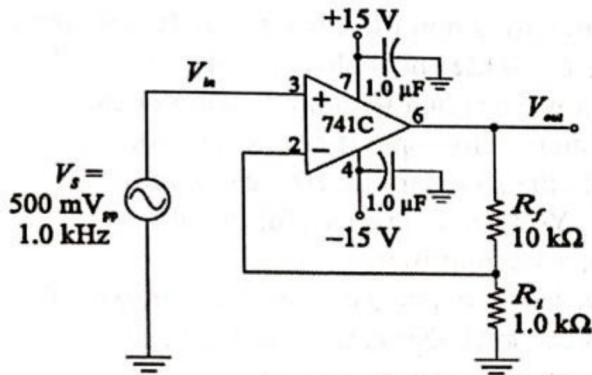

Figure 20-3
1. The circuit to be tested in this step is the noninverting amplifier illustrated in Figure 20-3.
- (d) Connect the circuit shown in Figure 20-3. Set the signal generator for a 500 mV_{pp} sinusoidal wave at 1.0kHz . The generator should have no dc offset.
- (a) For the noninverting amplifier in Figure 20-3, if $R_f = 0$ and R_i is infinite, what is the gain?